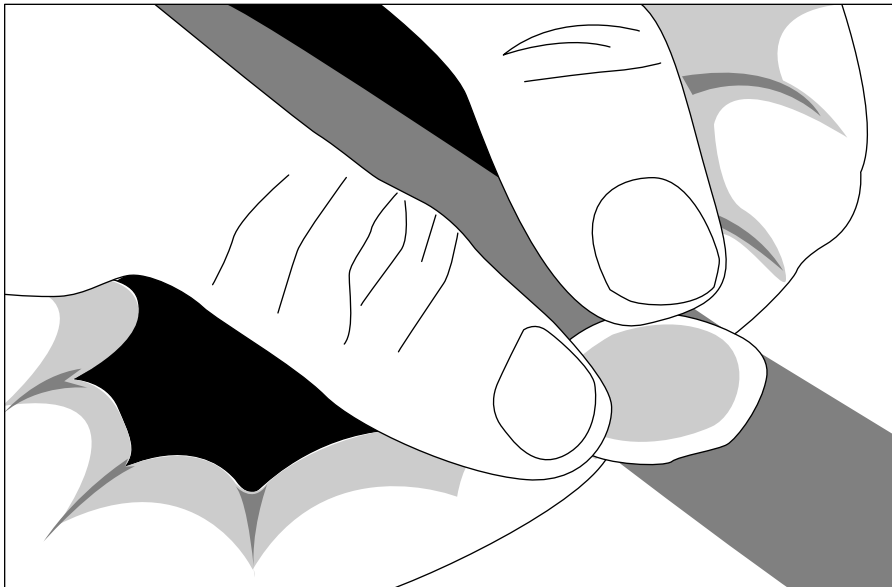

Figure 6-5:
5. Apply the patch to the tube, making sure to center it over the puncture (as shown in Figure 6-5).